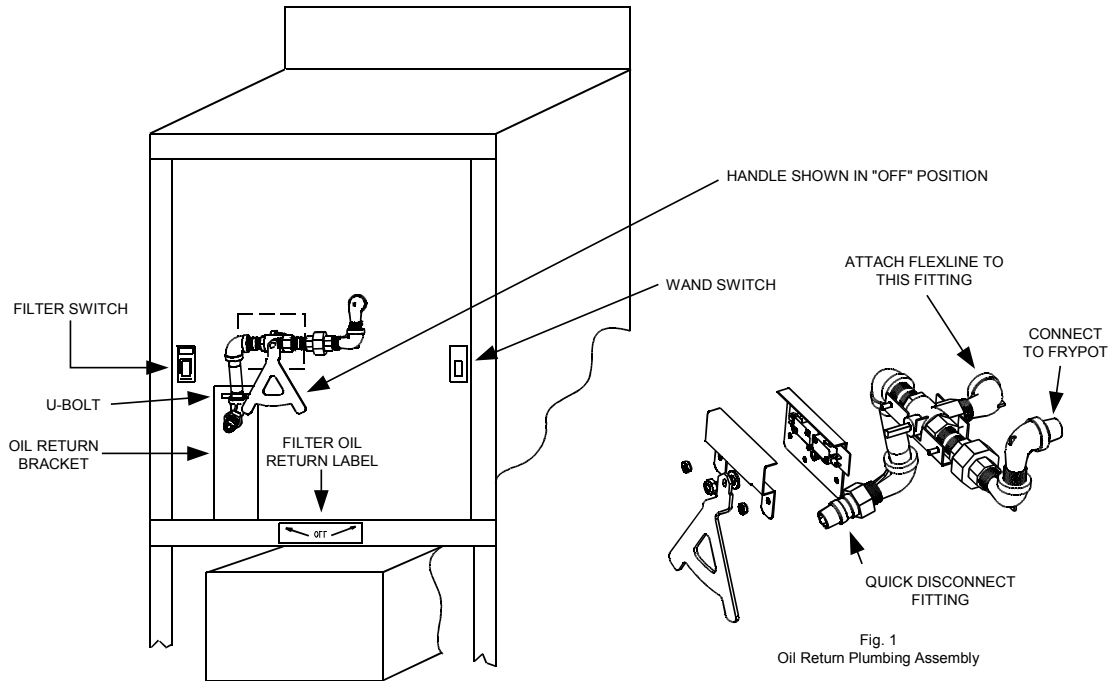

Fig. 1
5. CONNECT THE OIL RETURN PLUMBING ASSEMBLY (FIG. 1) TO FRYPOT AS SHOWN IN ILLUSTRATION. MAKE SURE THAT THE MALE QUICK DISCONNECT FITTING IS POSITIONED SO THAT IT WILL CLEAR THE DOOR WHEN CLOSED.